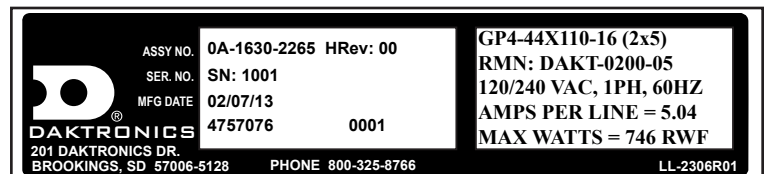

Figure 1: Display Label
Figure 1 shows a label on the display's back where the model number and power requirements are located.
1. Review the power requirements for the display. Requirements are found on the display shop drawing or label on the display's back, as shown in **Figure 1**.